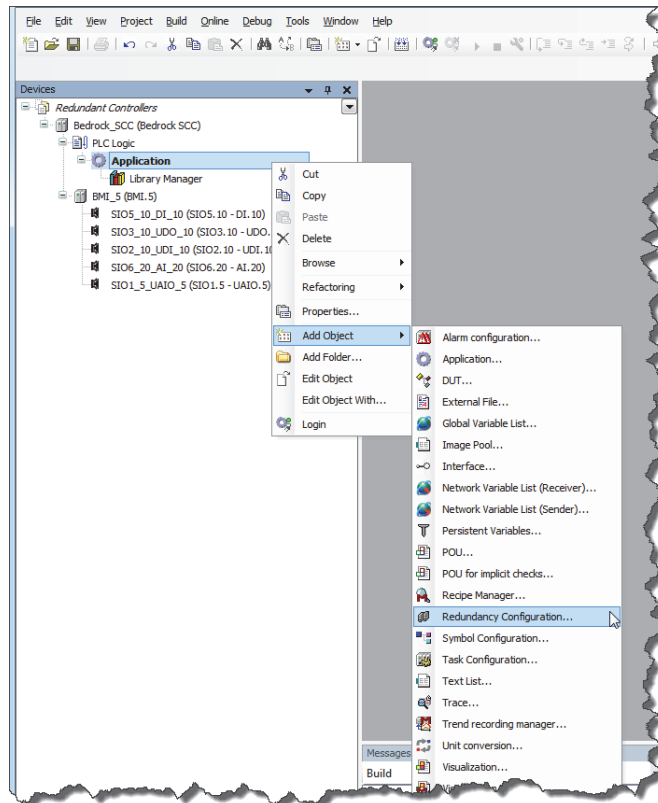

Figure 5-2 Select Redundancy Configuration
2. In the Devices pane of the Bedrock IDE, right-click the Application node as shown in Figure 5-2. Select “Add Object...” and then “Redundancy Configuration”.